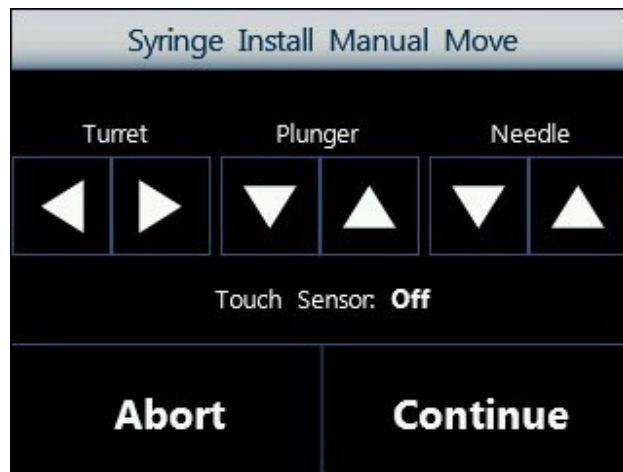

Figure 89: Syringe Install Manual Move screen
- j) From the screen reported in **Figure 88** or **Figure 89** tap “CONTINUE”: then the following screen appears: